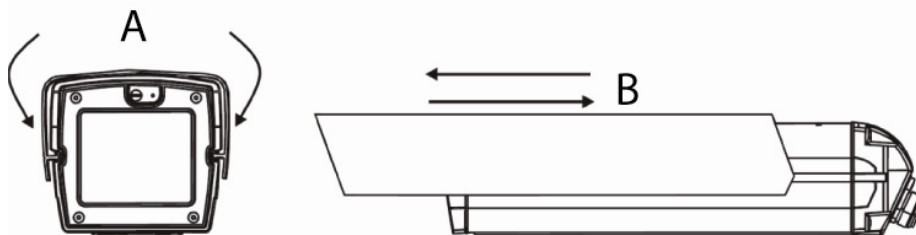

Fig. 3 Sunshield adjustment
1. Firmly squeeze **(A)** the sides of the sunshield (See Fig. 3).